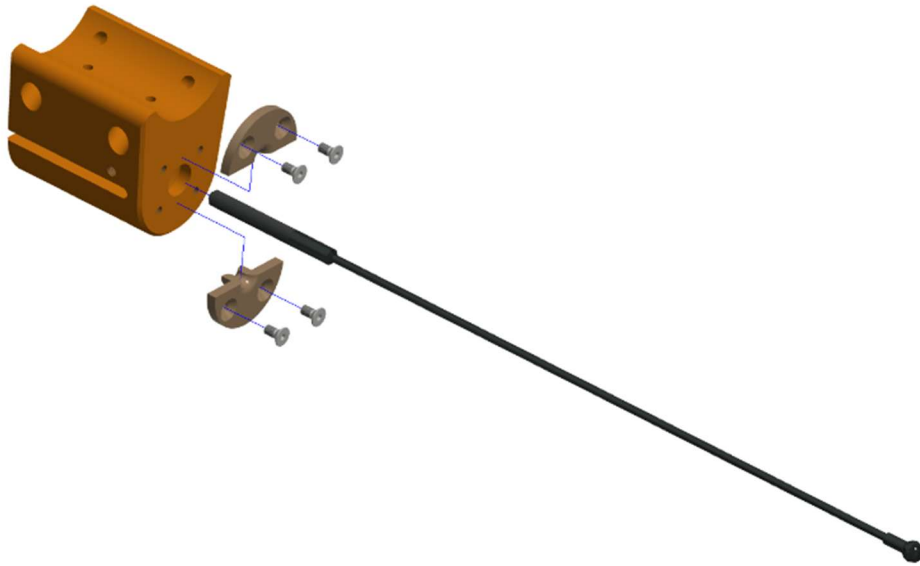

Figure 10-19. Remove four M3 X 0.5 X 6 LG. FHCS from the Achilles Cable Eyelet Guide (474-5531)
10.2.15 Remove four M3 X 0.5 X 6 LG. FHCS from the Achilles Cable Eyelet Guide (474-5531) on the end of the Lower Achilles Spring Housing (Figure 10-19).